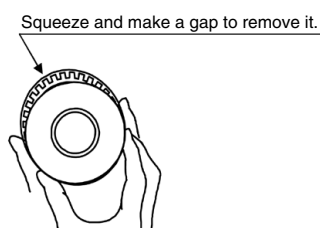

Fig. 2 Removal of the piston seal
③⑤ Piston seal: Remove the piston seal. (Fig. 2)
④② Cylinder tube gasket: Insert a watchmaker's screwdriver to pull out the seal.